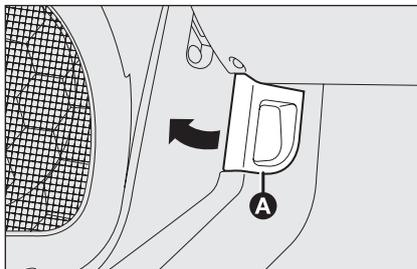

fig. 106
- pull lever **A**-**fig. 106** in the direction of the arrow;